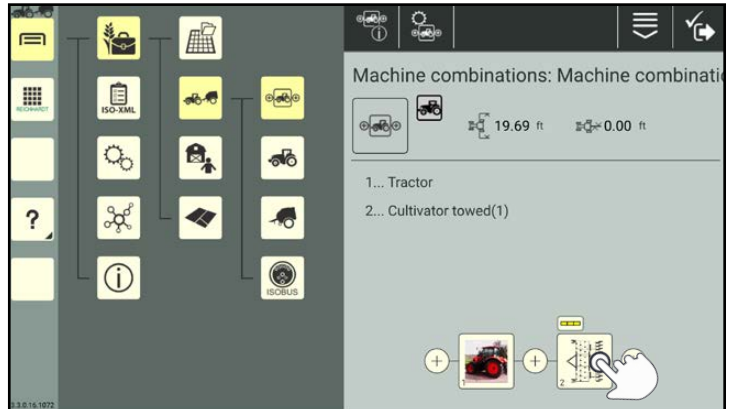

Fig. 312: Tapping the machine combination element to be replaced
1. Tap the machine combination element in the machine combination configuration (see Fig. 312).